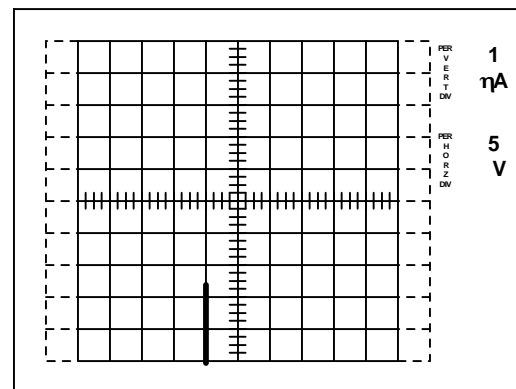

Figure 5. Gate-source leakage current at +20 V
9. Connect the device using the LEFT/RIGHT switch. Increase the collector supply voltage using the VARIABLE COLLECTOR SUPPLY control, but do not exceed 20V, the maximum allowable gate voltage. It may be necessary to adjust the vertical sensitivity. Read the leakage current from the display (see Figure 5). In many cases, the leakage current will be in the nanoamp range, in which case the trace will be dominated by currents which flow through the device capacitance as a result of minute fluctuations in the collector supply voltage.